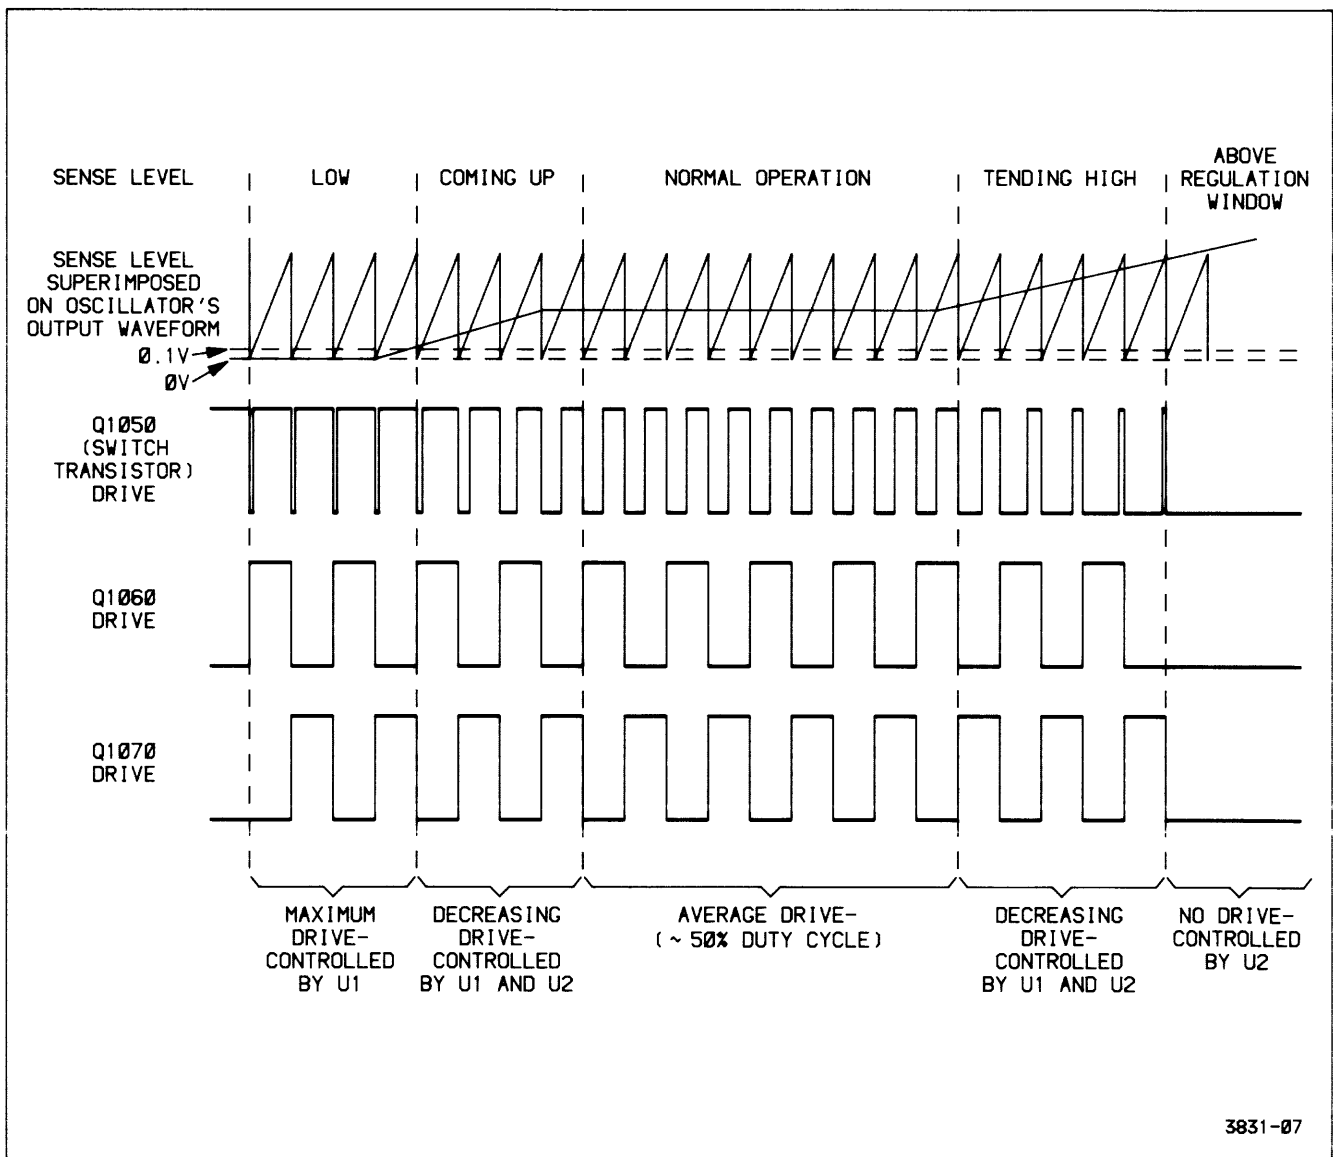
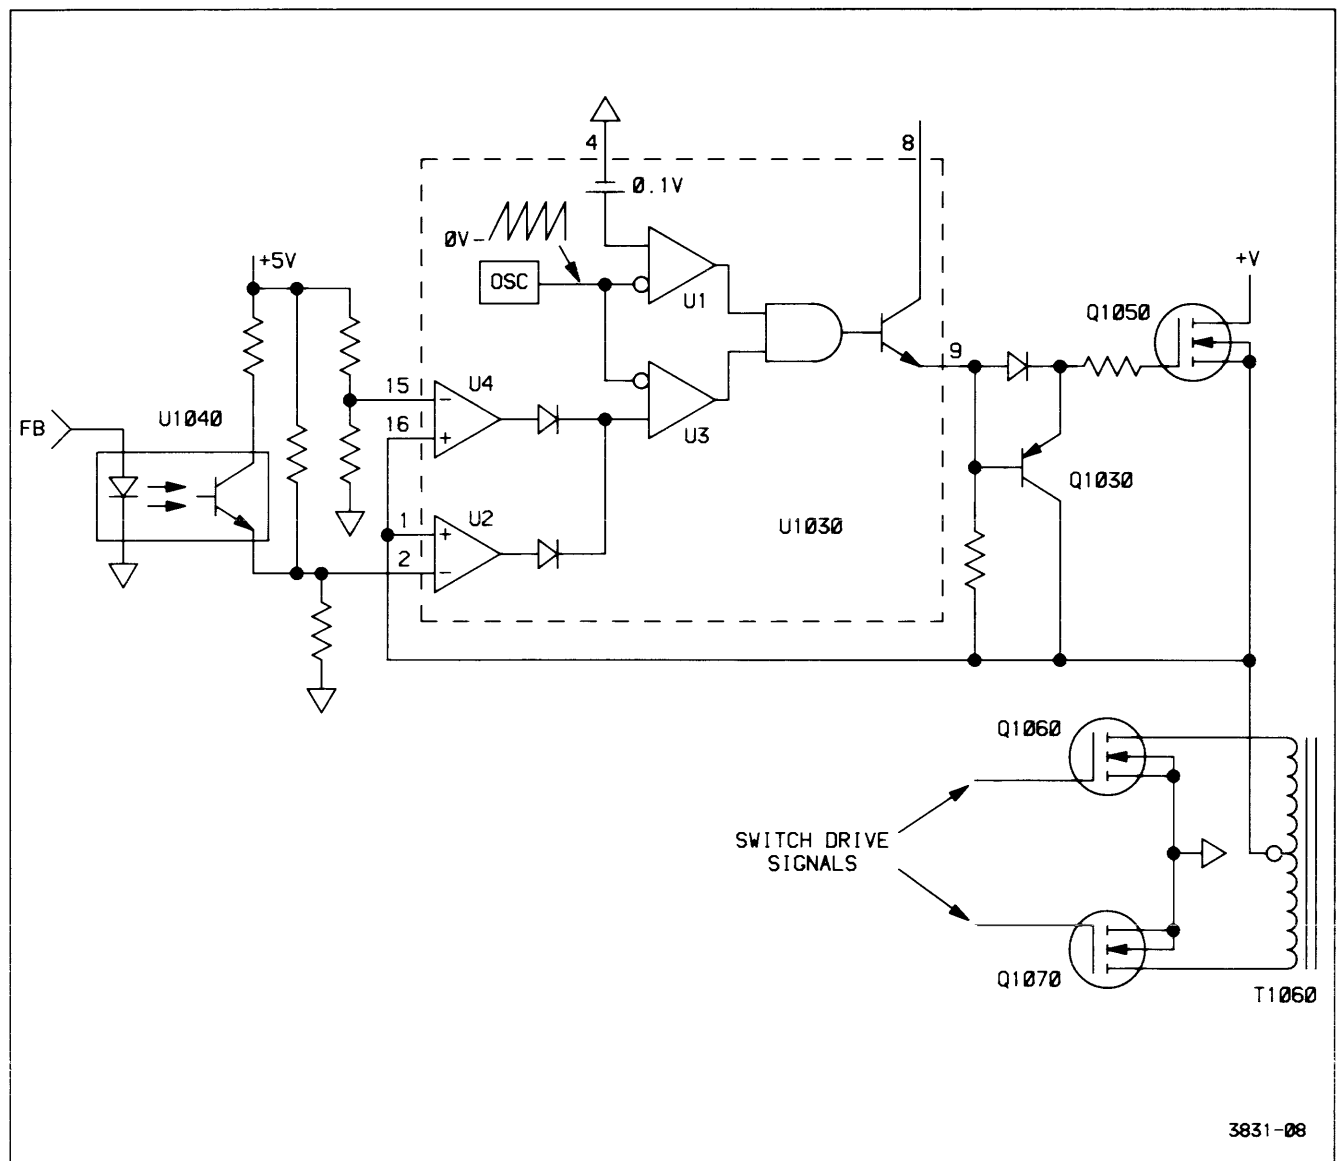

Figure 3-11. Timing relationships of the Inverter Drive signals.
Figure 3-12. Simplified schematic of control network.
**PREREGULATOR START-UP.** As the supply for the Preregulator Control IC is established, an internal switching oscillator begins to run. The oscillator generates a repetitive triangular wave (as shown in Figure 3-11) at a frequency determined primarily by R1032 and C1032. The simplified schematic of Figure 3-12 illustrates the voltage control functions of U1030.